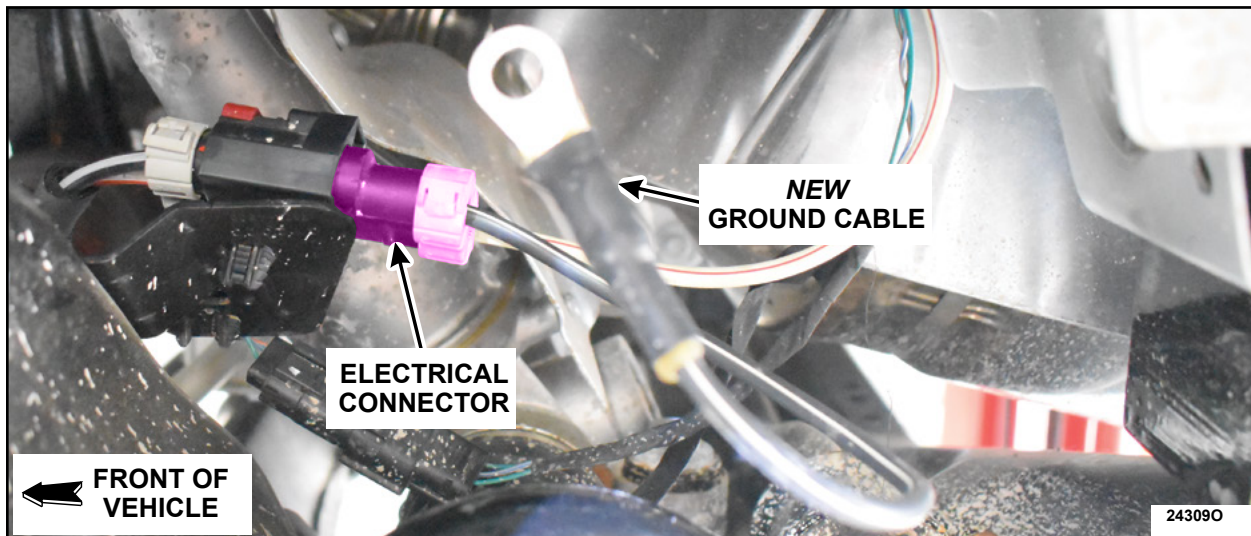

FIGURE 13
16. Connect the electrical connector. See Figure 13.